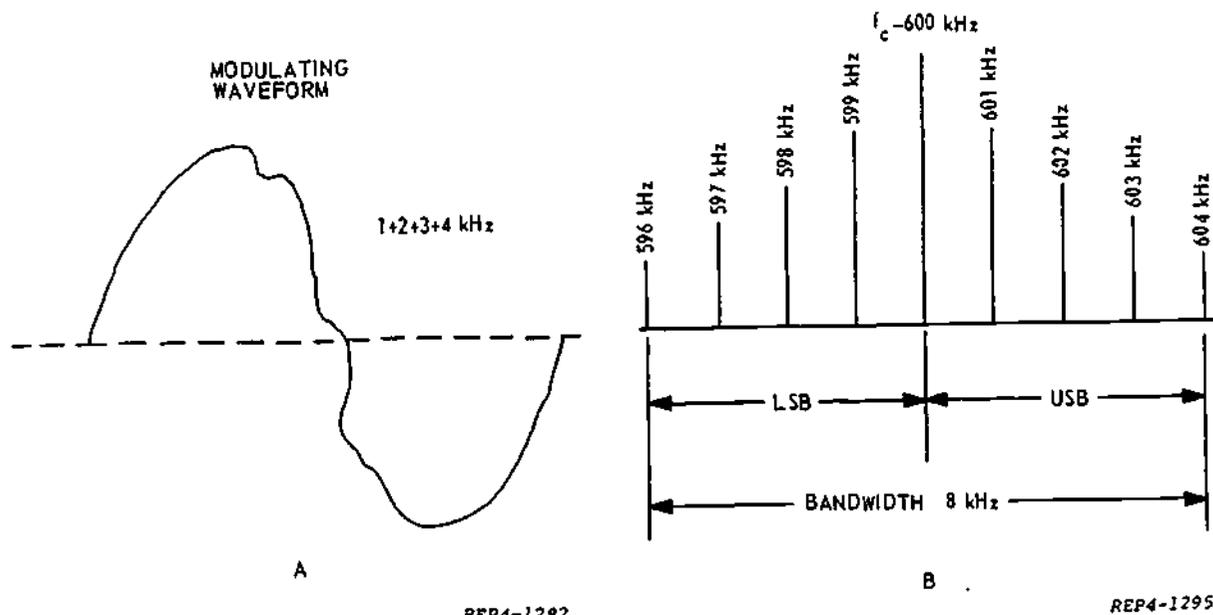

Figure 10. Development of Sidebands
The bandwidth (BW) of an AM signal refers to the space the transmitted frequencies will occupy in the frequency spectrum. Recall the transmitted frequencies in AM are the carrier signal, and the upper and lower sidebands. Look at figure 10 and see that the USB and LSB are each 4 kHz wide. This means that the BW of the transmitted signal is 8 kHz. If a 1000 kHz carrier is modulated with a 10 kHz signal, the upper side frequency will be 1010 kHz and the lower side frequency will be 990 kHz. The bandwidth in this case will be 20 kHz. Based on these facts we can say that the BW is equal to the distance from the lowest side frequency to the highest side frequency.